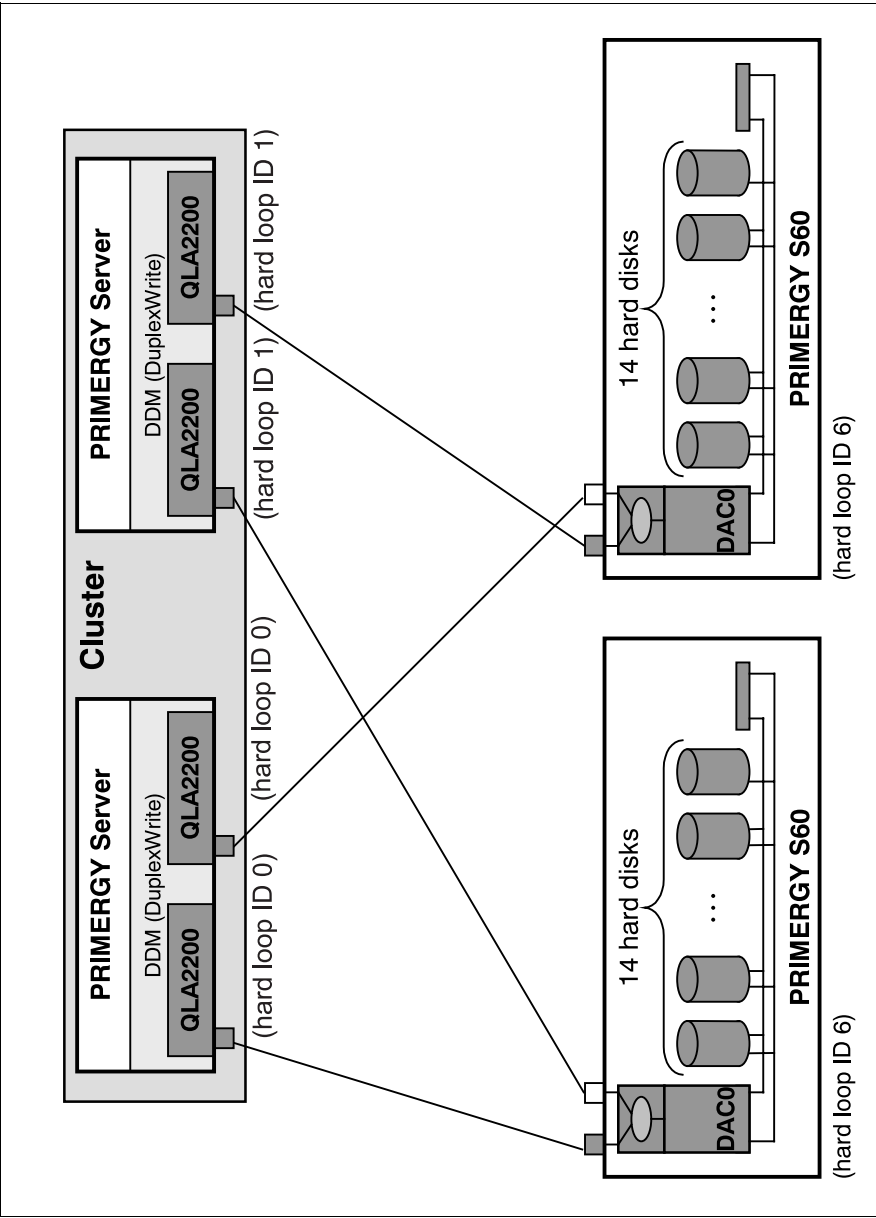

Figure 23: Cluster with DuplexWrite
- Loop IDs (see figure 23 on page 33)